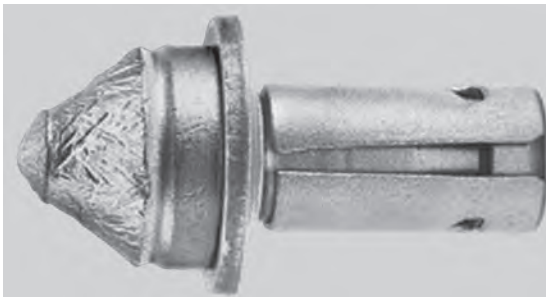
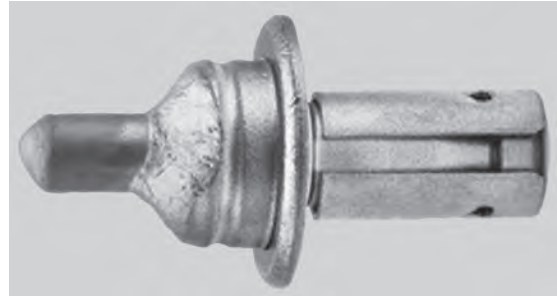

Figure 17
Figure 18
Figure 17 shows features of an ideally worn tooth that needs replaced.
Figure 18 shows a tooth that has worked on soft materials and needs replaced.
**NOTE:** The teeth shown in Figure 17, Figure 18, and Figure 19 are standard models. Similar concepts apply to all teeth models.